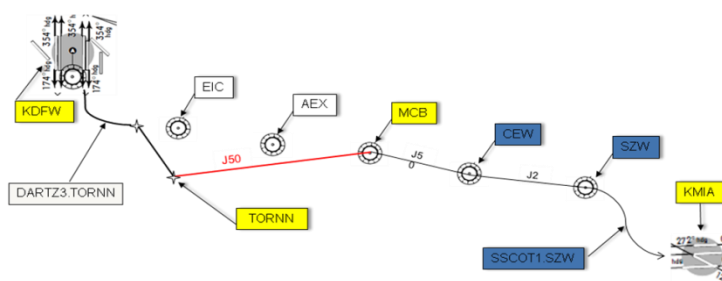

Figure 11. Depiction of a revision to the initial portion of the CPDLC-DCL.
- **Partial Reroute:** This is displayed in the DCL as a “CLEARED TO (position) VIA ROUTE CLEARANCE” and is sent when the beginning of the DCL connects downstream to the previously cleared or filed ATC route. In the example shown in Figure 11 below, the clearance from TORNN to MCB is the modified route and may be loaded into the FMS via the LOAD prompt. The DP DARTZ3.TORNN must be manually entered into the FMS along with the runway (if required).